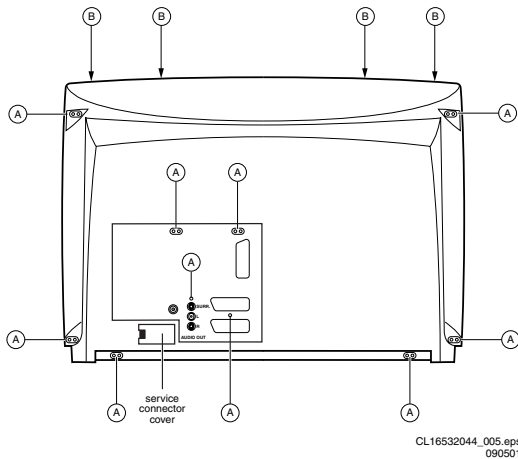

Figure 4-1 .eps
1. Remove the 'Service Connector' cover (see Figure 4.1).